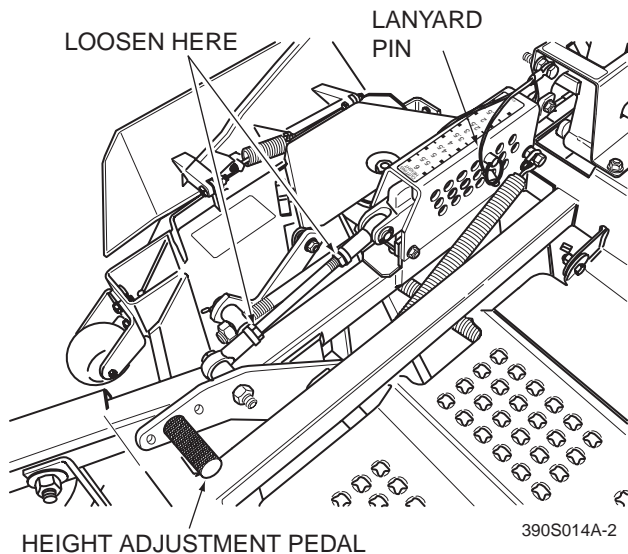
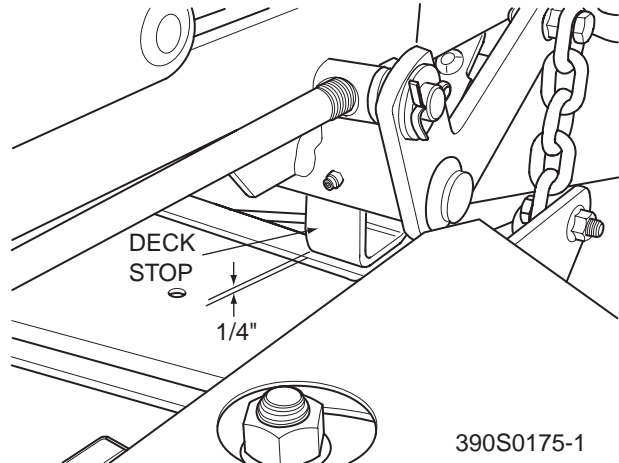

Figure 6-7. Cutter Deck Height Adjustment
Figure 6-8. Cutter Deck Stop
1. Place the cutter deck in the transport position. Loosen the jam nuts on both ends of the deck height control rod. See Figure 6-7.
2. Turn the control rod (See Figure 6-7) until there is a 1/4" space between the rear deck stop and the top of the cutter deck. See Figure 6-8. Tighten the jam nuts on the control rod.
4. Check the measurement from the floor to the cutter blade tip. If the measurement is not at 3", an adjustment can be made using the deck height control rod. See Figure 6-7.